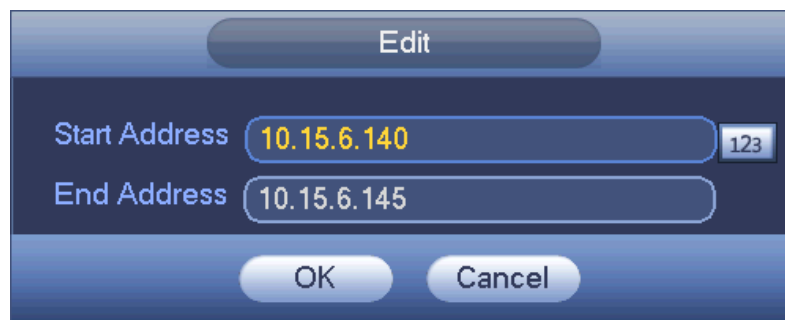

Figure 3-180
- Edit: Click it to edit start address and end address. See Figure 3-180. System can check the IP address validity after the edit operation and implement IPv6 optimization.